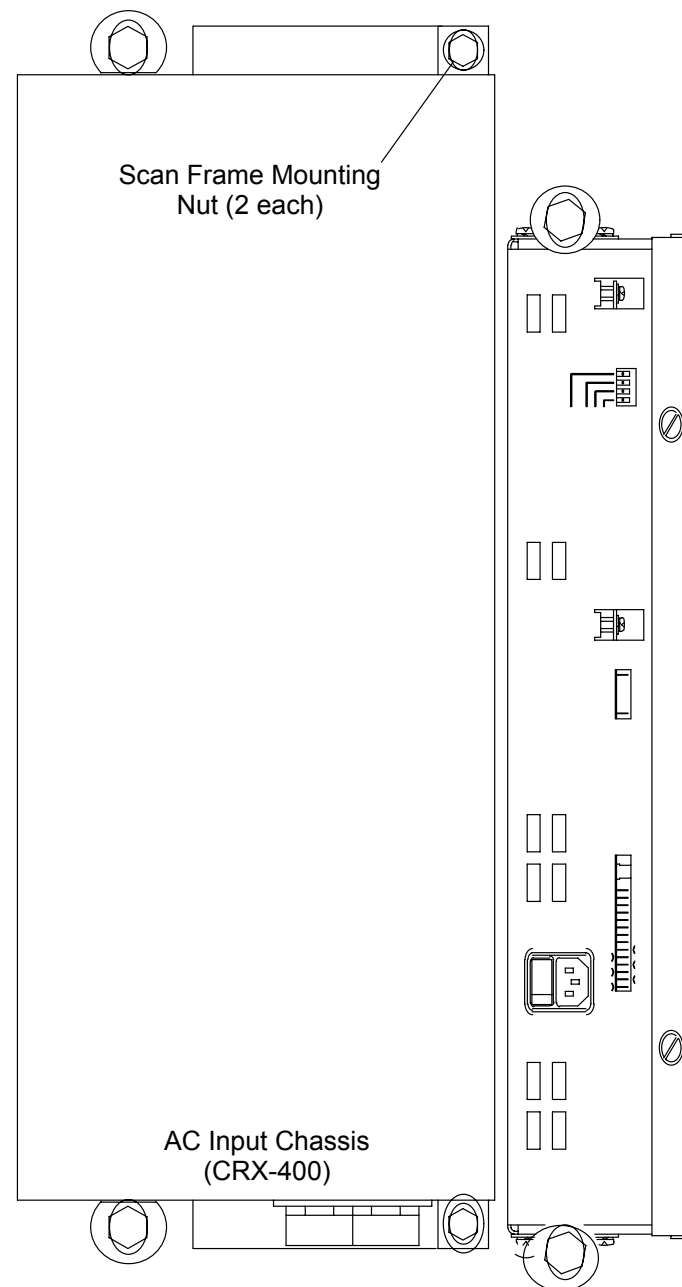

FIGURE 278 CRX400 AC INPUT CHASSIS
5. Remove the two Hex Head Mounting Bolts and screw Extender Pins into the vacated holes. See Figure 278.
6. Remove the two Hex Mounting Nuts and the Washers that secure the AC Input Chassis to the Gantry. See Figure 278.